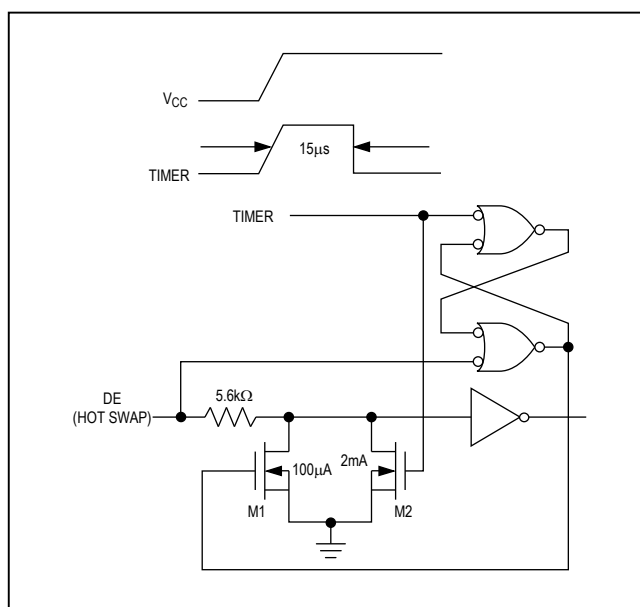

Figure 10. Simplified Structure of the Driver Enable Pin (DE)
At the driver-enable input (DE), there are two nMOS devices, M1 and M2 (Figure 10). When  $V_{CC}$  ramps from zero, an internal  $15\mu s$  timer turns on M2 and sets the SR latch, which also turns on M1. Transistors M2, a 2mA current sink, and M1, a  $100\mu A$  current sink, pull DE to GND through a 5.6kW resistor. M2 pulls DE to the disabled state against an external parasitic capacitance up to 100pF that may drive DE high. After  $15\mu s$ , the timer deactivates M2 while M1 remains on, holding DE low against three-state leakage currents that may drive DE high. M1 remains on until an external current source overcomes the required input current. At this time, the SR latch resets M1 and turns off. When M1 turns off, DE reverts to a standard, high-impedance CMOS input. Whenever  $V_{CC}$  drops below 1V, the input is reset.